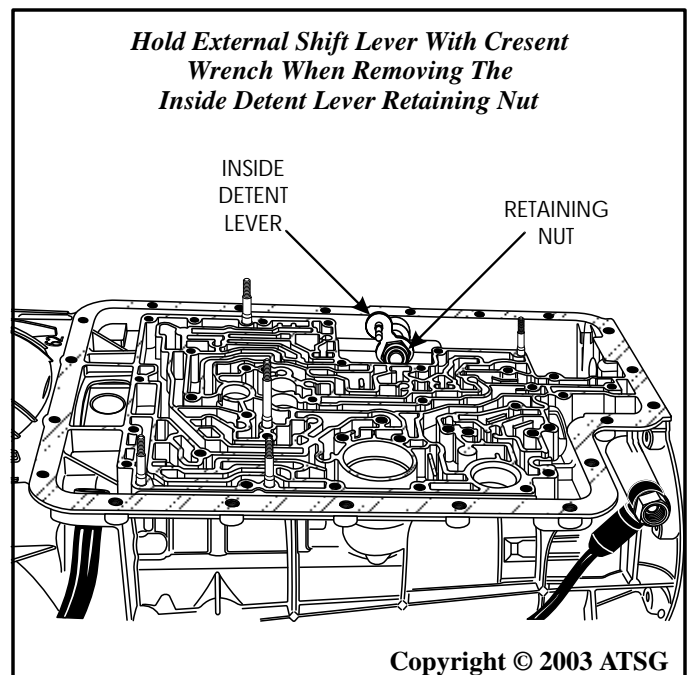

Figure 81
7. Install the external shift lever, inside detent lever and retaining nut. Torque the retaining nut to 41-54 N·m (30-40 ft.lb.), again using a crescent wrench to hold external shift lever. (See Figure 81).